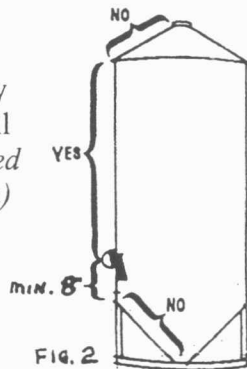

FIG. 2
The LevALERT Model 540 is designed to be installed at any position along a 90° vertical wall section. *Do Not Install on sloped areas of bin or within 8" (21 cm) of obstructions inside the bin (protruding nuts/bolts, ladders, wall stiffeners, etc.)* See Fig. 2
- Step 8) Fasten **Indicator Body** to binwall by driving the 2 **Self-Drilling Screws** into the binwall. Tighten screws evenly until tight. See Fig. 2